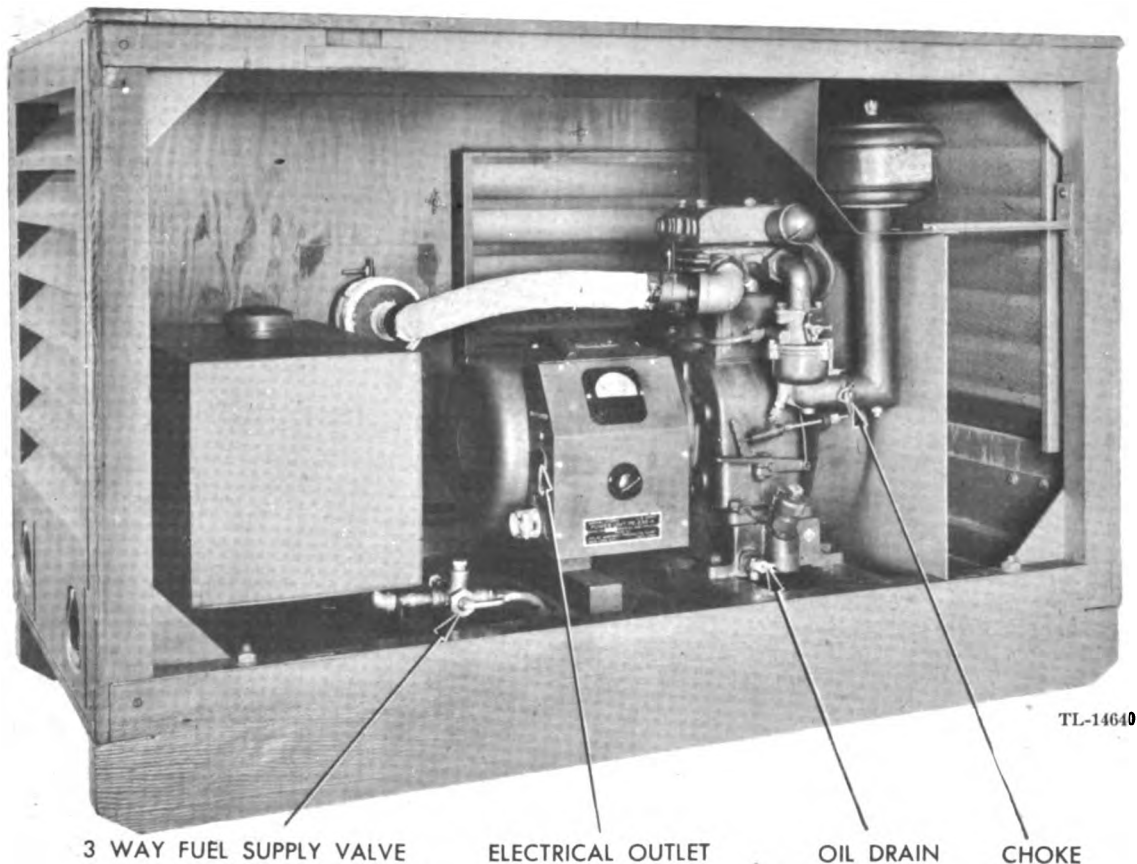

Figure 41.—Power Unit PE-236-A, in Cabinet CY-129/CRN-11 (cabinet door removed).
7. POWER UNIT PE-236-A (Fig. 41)